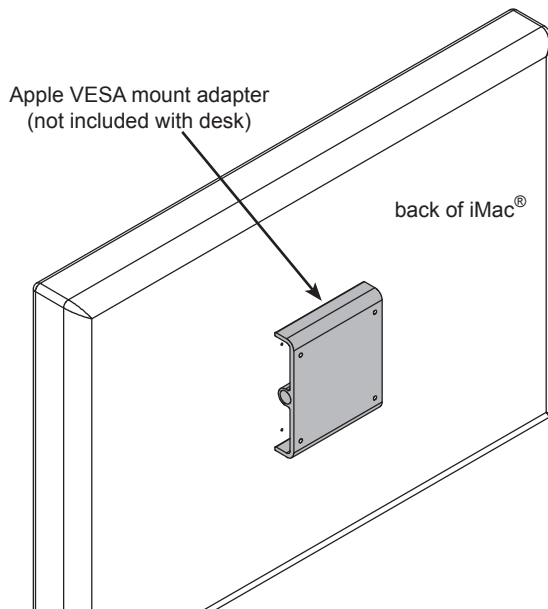

Figure 3B
1. Attach the "Apple VESA mount adapter" to your iMac® using the instructions provided with the Apple adapter. **Figure 3B**.